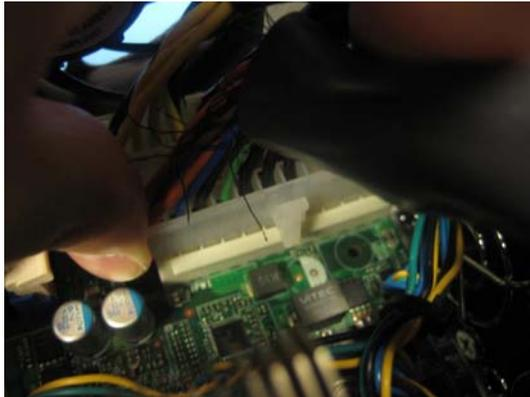

Figure 3-94
- 8) Disconnect the ATX 23-pin power connector from the motherboard. Pull the connector up while using a flat-blade screwdriver to push the top of the release catch (facing the bottom of the chassis) into the body of the connector (Figures 3-94 and 3-95).